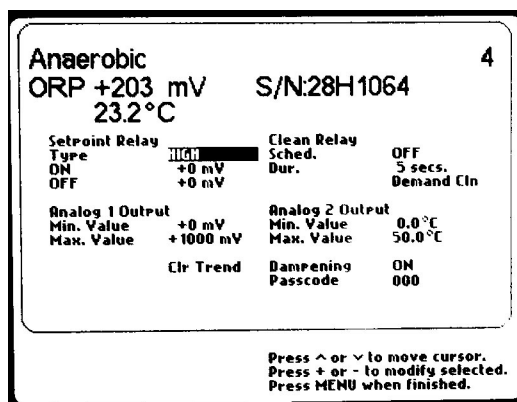

Figure 43 - Channel Setup - pH/ORP
3. On the CHANNEL SETUP screen (Figure 43), use the up or down arrow keys to change the highlighted field to DAMPENING, located near the lower right corner of this screen.